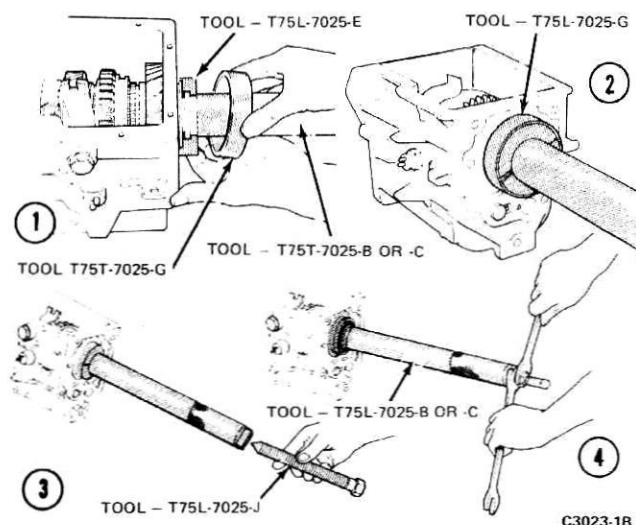

FIG. 7 Removing Input or Output Shaft Bearing
10. Remove the snap ring that holds the output shaft bearing on the shaft. Remove the bearing from the case and shaft as shown in Fig. 7.